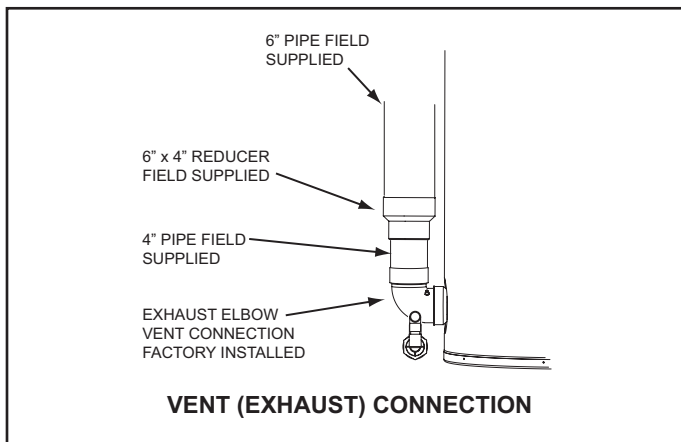

Figure 15
11. If installing 6 inch pipe transition to 4 inch pipe at the exhaust elbow as shown in Figure 15. The field installed 4" pipe between the exhaust elbow and the 6" x 4" reducer coupling should be 18 inches (45 cm) or less in length.
12. If installing 6 inch vent pipe transition to 4 inch pipe at the exhaust elbow on the water heater as shown in Figure 15. The field installed 4" pipe between the exhaust elbow and the 6" x 4" reducer coupling should be 18 inches (45 cm) or less in length.